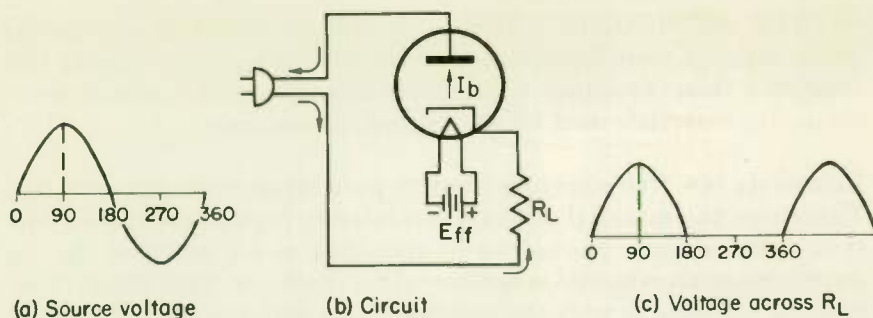

Fig. 4 A vacuum-tube diode, showing input and output waveforms.
3. Figure 4 illustrates a rectifier circuit. E_{bb} is replaced with a sinusoidal source of a-c voltage as shown in Fig. 4(a). The waveform of the voltage across the load resistor R_L is shown in Fig. 4(c).